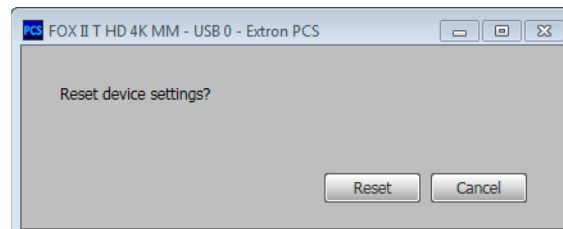

Figure 19. Reset Device Dialog Box
- **Reset Device ...** — Opens a dialog box (see figure 19) that allows you to reset the transmitter. Reset returns all settings to their default values.